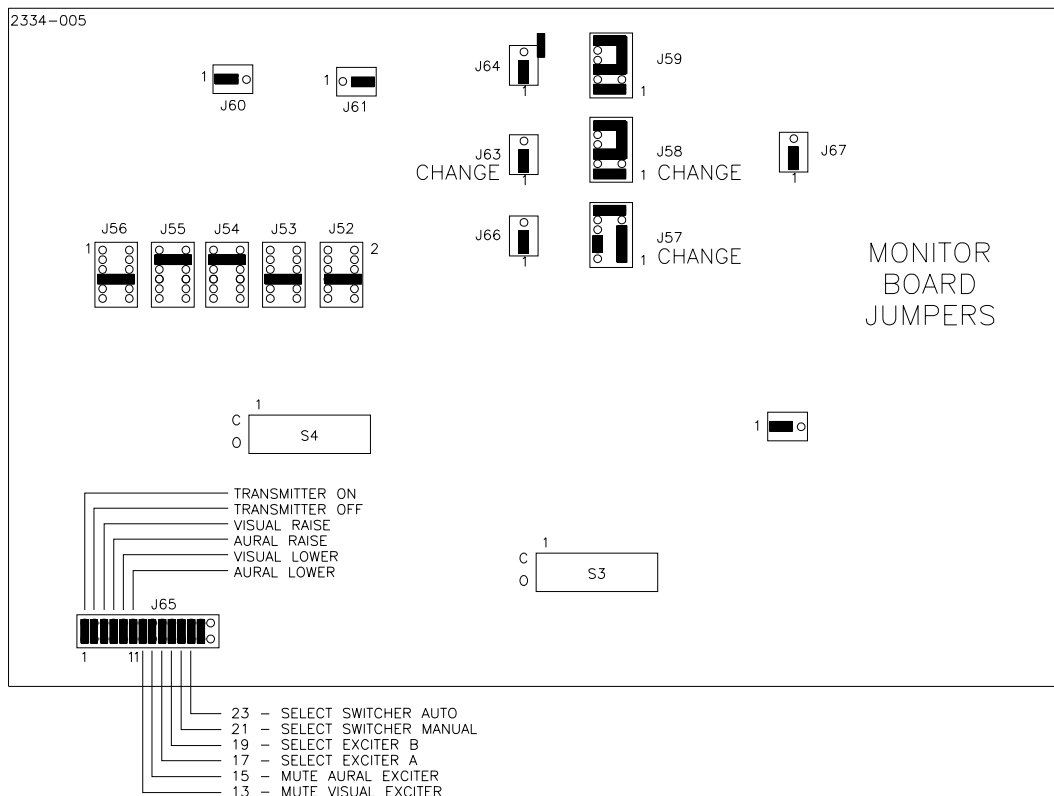

Figure 2-1
Figure 2-1 is a partial drawing of the monitor board showing the location of all jumpers as they should be installed when the SENTRY™ conversion is complete.
2. If the monitor board still will not start properly, turn off the circuit breaker and recheck all the installed IC's for a possible misaligned pin. Check to be certain all jumpers are set as shown in Figure 2-1.
If one or more of the SENTRY™ controls are to be blocked, the jumpers controlling these commands should be omitted. Refer to Figure 2-1 to locate the jumpers you need to omit.